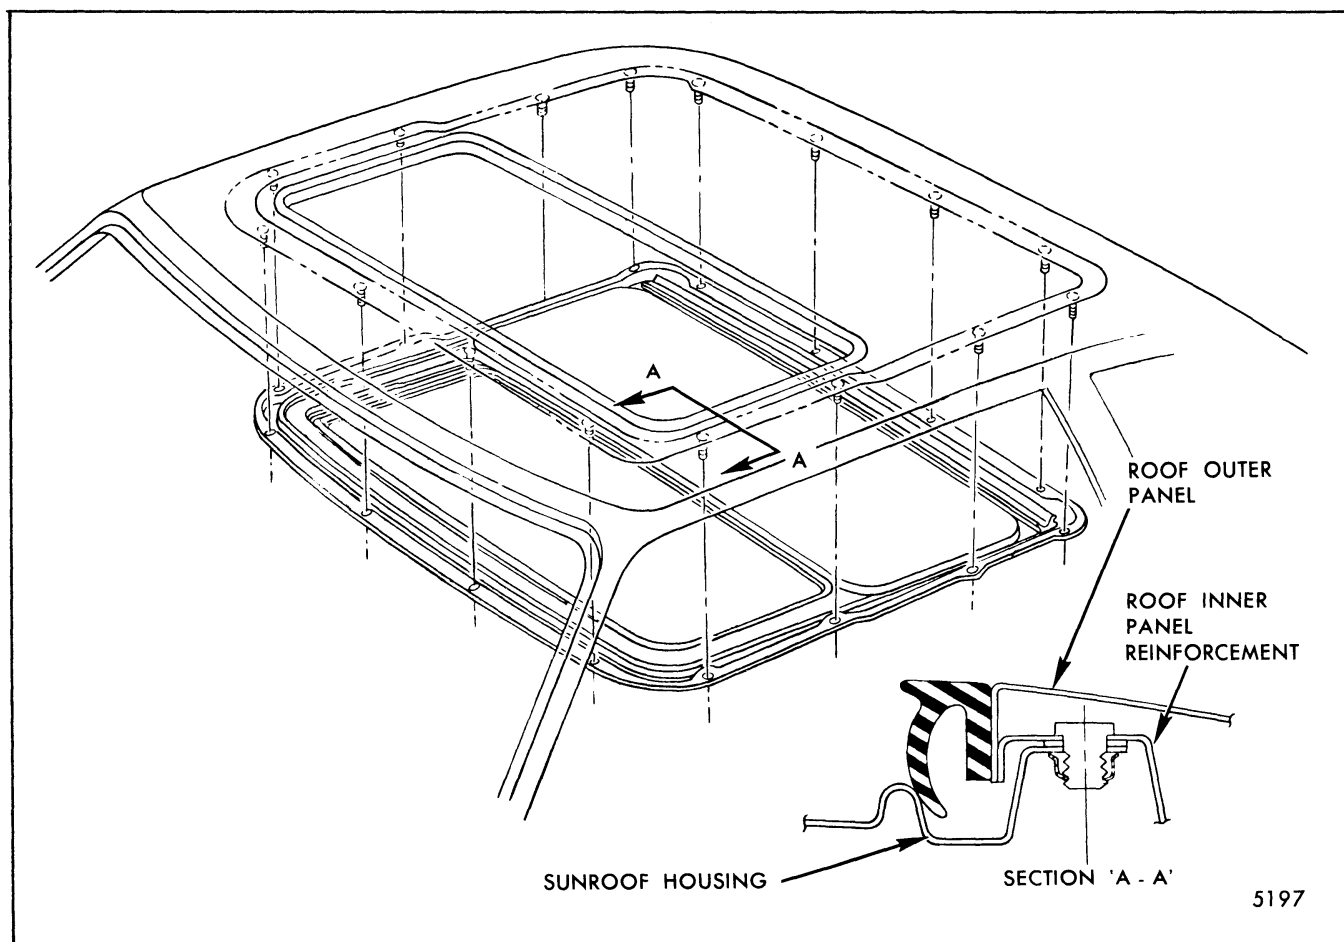

Fig. 8-51-Sunroof Module (Complete Installation)
The sunroof housing, complete with all hardware except as specified below, may be removed as an assembly (Fig. 8-51).
6. Support sunroof housing assembly and remove sixteen nuts that retain housing to roof inner panel (Fig. 8-51). Lower and remove sunroof housing.